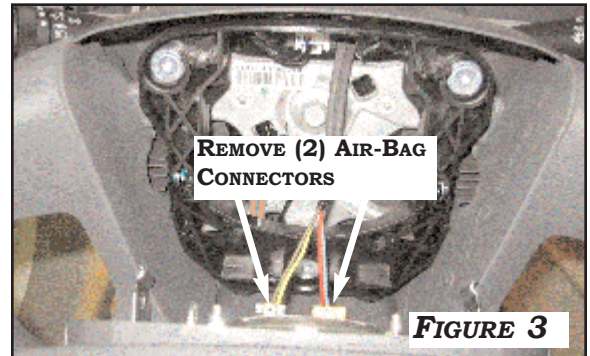

FIGURE 3
3. REMOVE (3) T20 SCREWS TO REMOVE THE STEERING SHROUD AS SHOWN IN **FIGURE 3**.
3. PRESS IN SIDES OF BOTH CONNECTORS TO REMOVE AIRBAG AS ILLUSTRATED IN **FIGURE 3.**